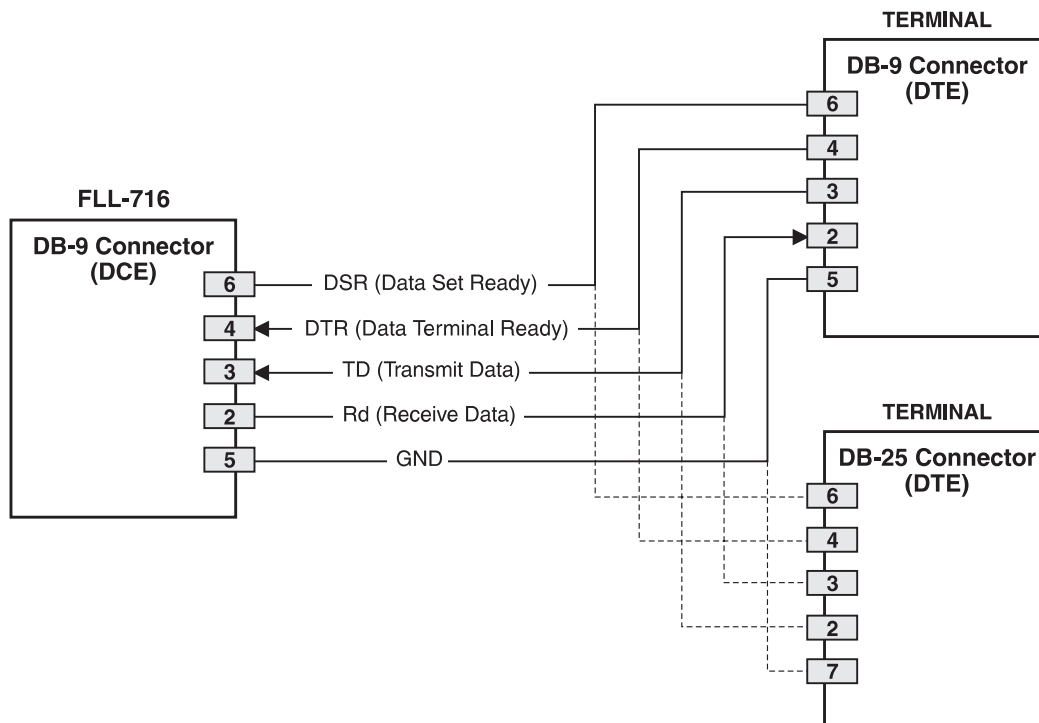

Figure 4. Connecting FLL-716 to an ASCII Terminal
6.2 **Connecting FLL-716 to a Terminal or Modem.** A standard RS-232 (DB-9) connector on the front panel provides access to the menu interface feature through an ASCII terminal. Figure 4 shows the pinouts for connecting the FLL-716 RS-232 (DB-9) maintenance port to an ASCII terminal.